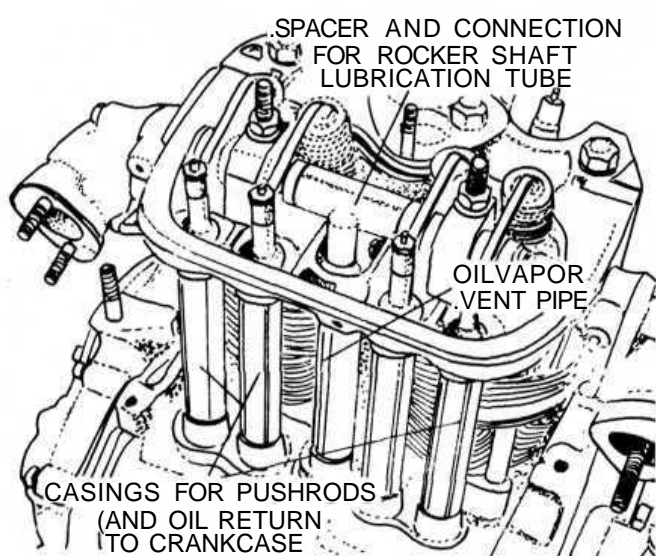

FIG 1 :13 Engine without blower cowl and cylinder head cover
- 21 To ensure no damage occurs to the long cylinder barrel mounting studs these may be removed using Fiat puller A.40010 or a universal stud removal as shown in **FIG 1 :12**.